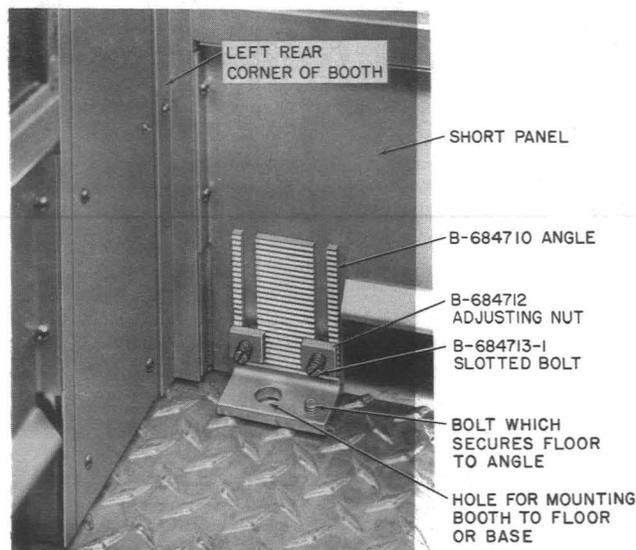

Fig. 10—▶Anchor Bracket and Leveling Device◀
2.17 Adjustable mounting angles (Fig. 10) are provided to facilitate booth leveling up to 3 inches. They are also used for bolting the booth to its mounting surface.
- (a) If a KS-19580, List 28 foundation template is used, remove insert plugs from template and secure anchor brackets (Fig. 10) of booth to template using four 3/8-16 by 1-1/4 stainless steel hex head bolts, four 3/8-inch lockwashers, and four 3/8-inch flat washers.
- (1) Mark the location for four mounting holes.
- (2) Drill four lead holes to accommodate 5/16 by 2-1/2 inch lag screws.
- (3) Secure booth to floor using the four 5/16 by 2-1/2 inch lag screws, four 5/16-inch lockwashers, and four 5/16-inch flat washers.
- (d) Adjust the anchor brackets (Fig. 10) if necessary and ensure that the booth is level.